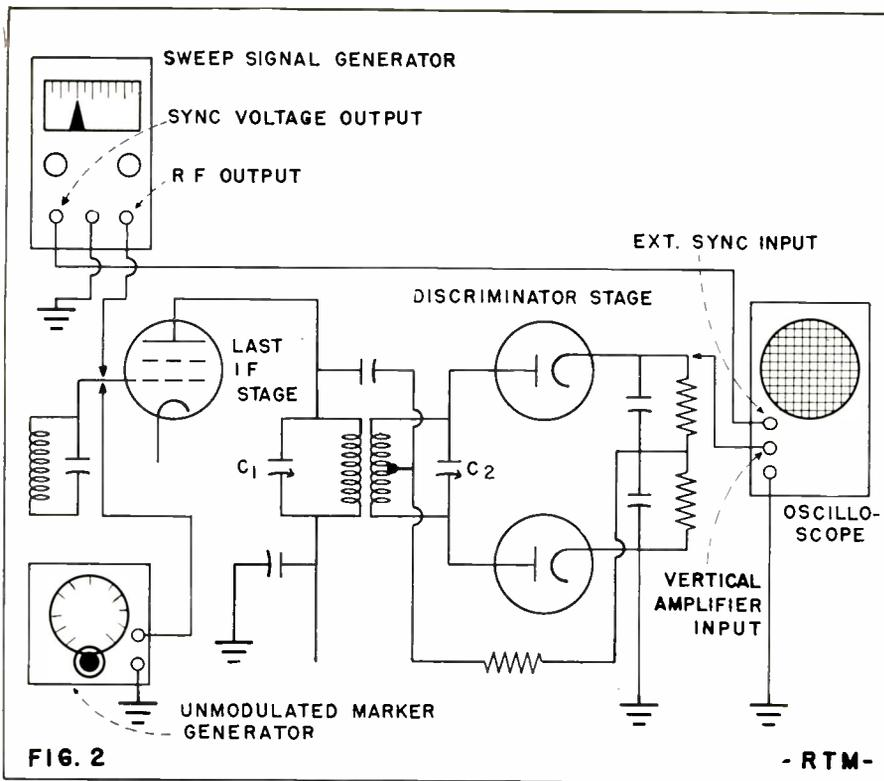

FIG. 2 Method of connecting the sweep generator, marker generator, and oscilloscope for alignment of the FM second detector. See text for alignment procedure.
This is what usually happens. The voltage present at the junction of the video amplifier plate load resistors is applied to the control grid of the AGC tube; see Fig. 2. If the video amplifier tube or circuit becomes defective, the voltage drop across the resistor R_1 is decreased, and an increased positive voltage is applied to the grid of the AGC tube. The AGC tube is no longer at cutoff between sync pulse intervals, and an increase in plate current results. This AGC voltage developed may be of sufficient amplitude to cut off the RF amplifier and the first and second video IF tubes. This means no sound (in an intercarrier system) and no picture.
video IF amplifier may be -0.2 to -0.4 volts. In receivers employing a circuit similar to that shown in Fig. 2, if C-1 shorts in the sync separator and clipper circuit, the sync tube will draw grid current. This will bias the AGC tube to cutoff. Then no AGC voltage will be developed and, since the RF tube and the first and second video IF's are not controlled, their gain will be at maximum. Under the influence of a strong signal, sufficient negative voltage will be developed across the video detector load resistor (usually about 4700 ohms) to drive the amplifier to cutoff.
FM Detector Alignment; Discriminator: The following instruments are required for this adjustment: (1) a frequency modulated signal generator covering the receiver intermediate frequency and having a sweep width of at least 300 kc. and sync signal voltage output. (2) A good oscilloscope. (3) An unmodulated signal generator (for providing marker pips on the detector response-curve pattern) tunable from several megacycles below to several megacycles above the intermediate frequency. The instruments are connected to the FM second detector stage in the manner shown in Figure 2.
Fig. 1A shows a typical ratio detector circuit. (1) Connect the vertical amplifier input terminals of the oscilloscope between points X and ground. (2) Connect the signal generator and marker generator to the grid of the last IF tube, as shown in the discriminator circuit, Fig. 2. (3) Adjust the trimmers or tuning slugs of the ratio detector transformer to give a symmetrical alignment pattern such as is shown in Figure 3.